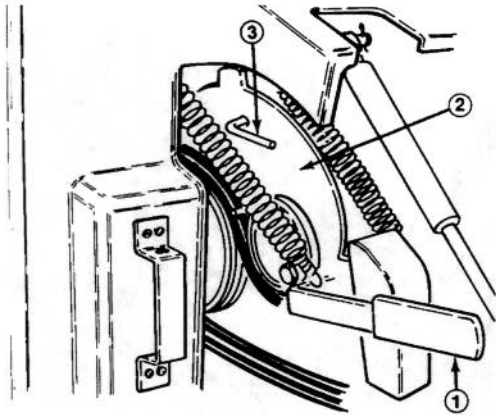

Figure 14
- C. Push down on the override lever (Fig. 14) until the holes in lever bracket and the coring bracket are aligned, then insert the pin through the holes.